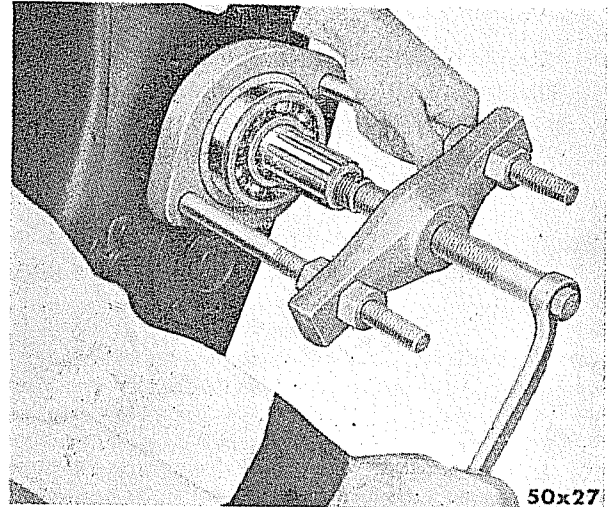

Fig. 22—Removing Mainshaft Rear Bearing.
- (1) Mount the transmission assembly in a suitable fixture and remove gear shift lever housing complete with the shifter assembly.
- (2) Remove the mainshaft flange retaining nut cotter pin. Unscrew the nut and withdraw the flange.
- (3) Unscrew the set screws holding the clutch shaft bearing retainer and remove retainer and bearing complete.
- (4) Remove the speedometer drive assembly.
- (5) Unscrew the mainshaft rear bearing retainer set screws and remove the retainer.
- (6) Pull the mainshaft and gear assembly far enough out of the rear of the case to facilitate the removal of the mainshaft rear bearing. Instal tool C-293 and remove bearing. Refer Figure 22.